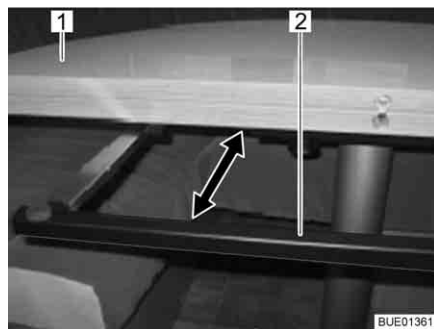

Fig. 96 Support frame
- Pull out the support frame (Fig. 96,2) below the table top (Fig. 96,1) to the end position.